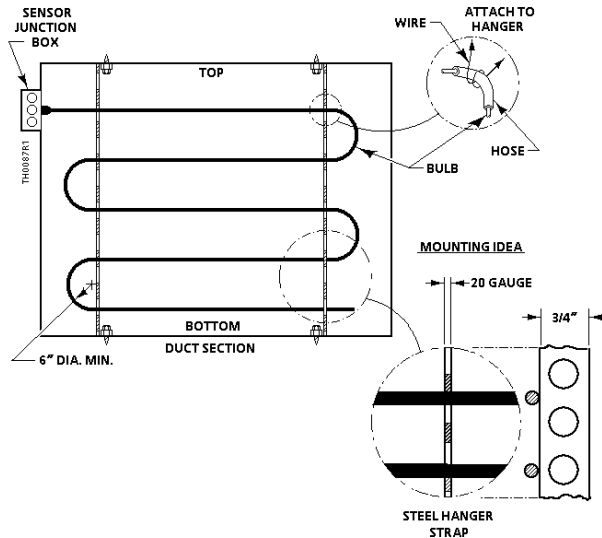

Figure 2 Large Walk-In Duct Mounting Option.
Required for walk-in duct mounting option (See Figure 2):
NOTE: The duct sensing element should be mounted in a horizontal, serpentine manner as shown in Figure 2.
1. Position and mark the screws holes for the two or more steel straps, as shown in Figure 2.